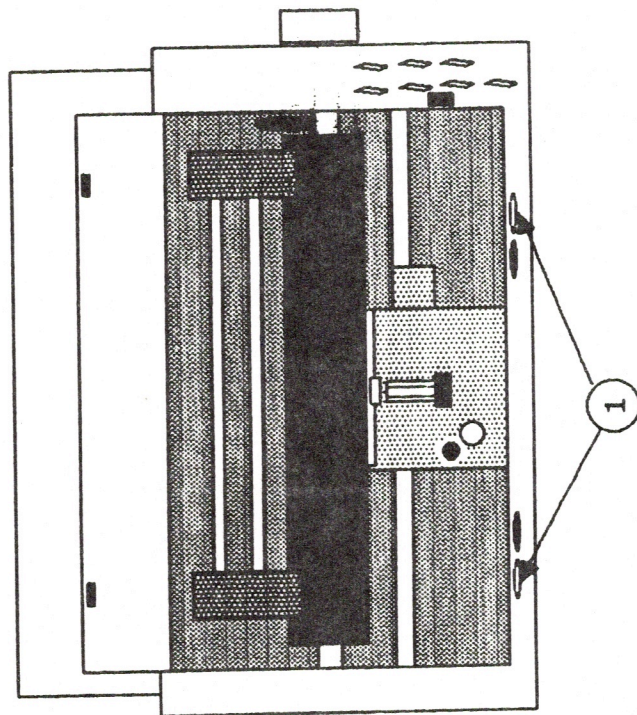

Figure 3
- d) Locate the two tabs inside the front of the case (see Figure 3, #1). Notice the slots above the tabs on the inside of the front cover. To free the cover, push forward through the left slot with a small screwdriver while lifting up on the left corner of the printer cover. Repeat for the right tab.